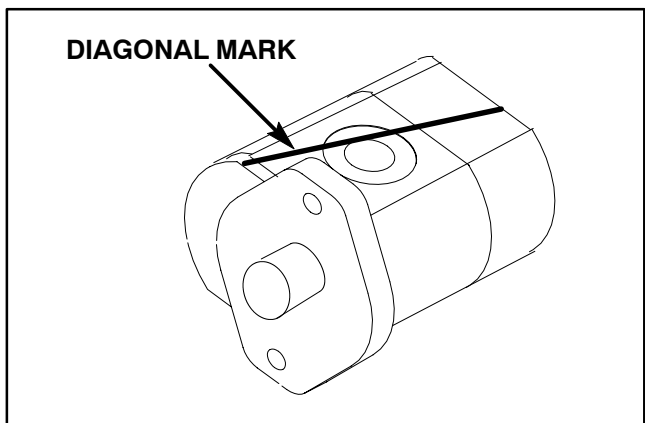

Figure 67
2. Use a marker or scribe to make a **diagonal** mark across the front flange, body, and rear cover for reassembly purposes (Fig. 67).